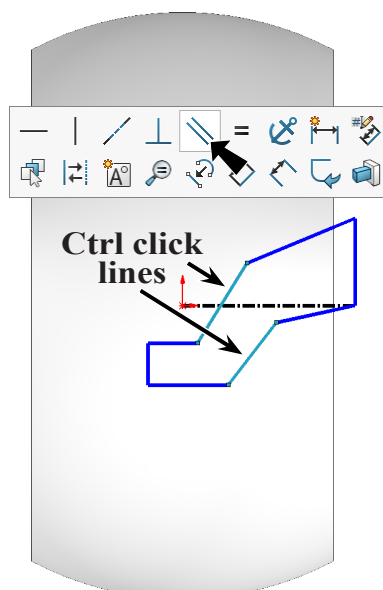

Fig. 14
Step 8. **Ctrl click left set of angled lines** to select both. Release **Ctrl** key and click **Make Parallel**  on the context toolbar, **Fig. 14**.